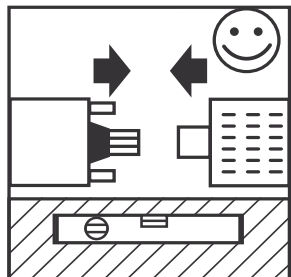

Fig.: 10
1. Allow for an external mains switch (fig.10, See Pg 7) in order to be able to switch the system dead at anytime.